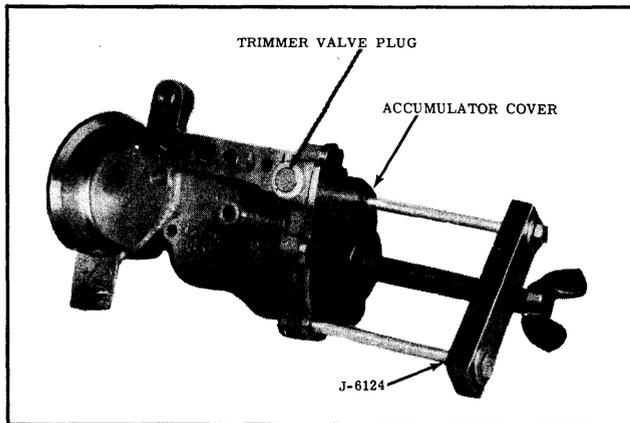

Fig. 3-113 Tool Installation
2. Remove 2 opposite accumulator cover screws and install Tool J-6124. (See Fig. 3-113)